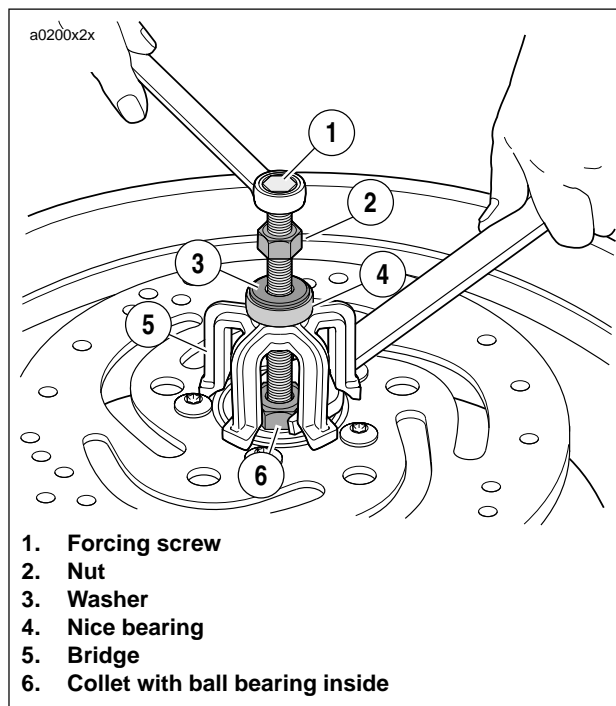

**Figure 2-12. Wheel Bearing Inspection
2. See Figure 2-12. Mount a magnetic base dial indicator to the brake disc with the dial's contact point on the end of the axle.